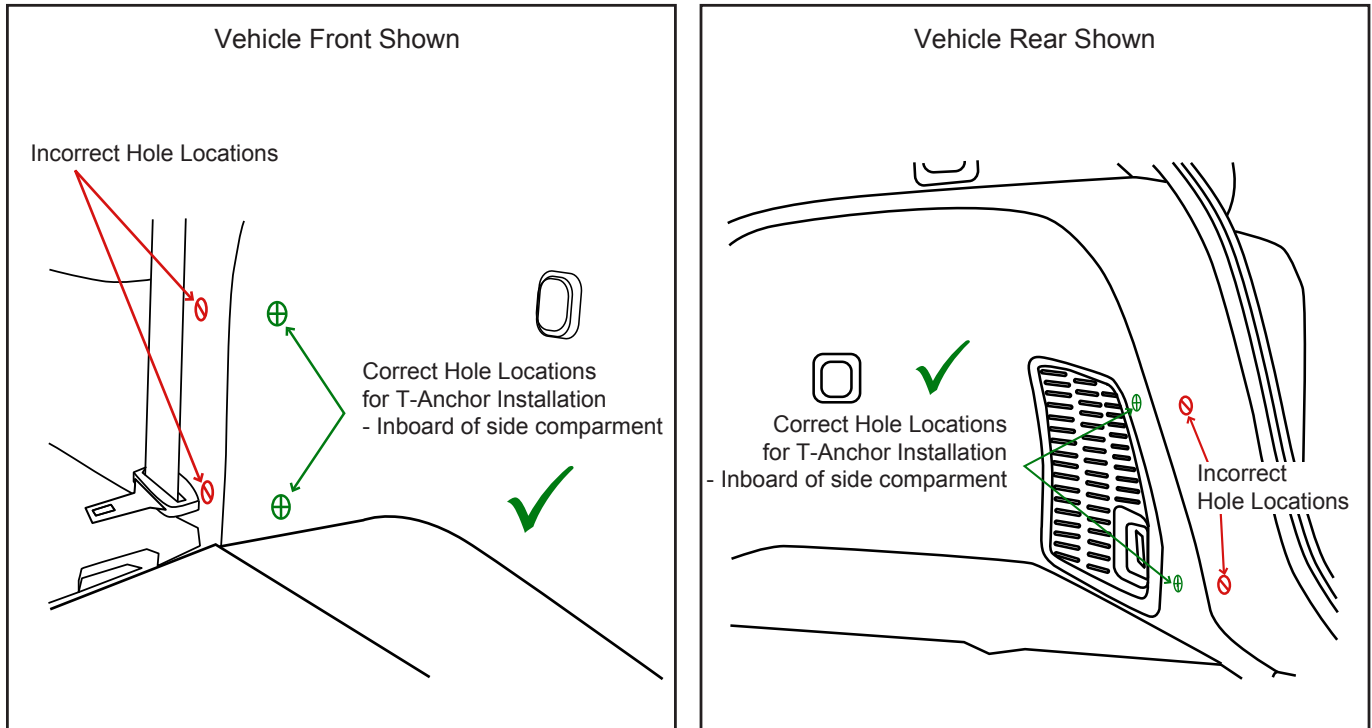

Fig. 5
6. Ensure ALL marked hole locations are inboard of the edge of the side compartments. The mark should not be located on the main wall of the side trunk panel (Fig. 5 Vehicle Front/Rear).